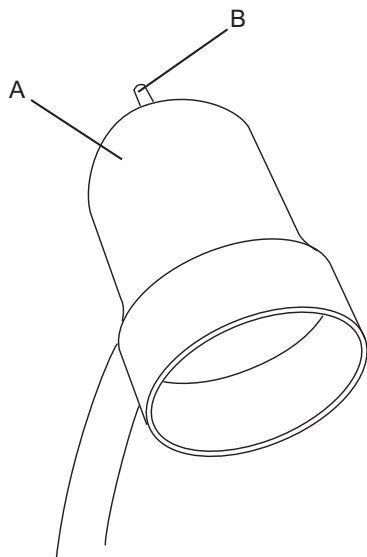

Figure 7 - Work Light
Refer to Figure 7
The Flexible Work Light may be turned "ON" or "OFF" by using the rotary switch (B) on the top surface of the housing (A). The switch can be rotated in the clockwise direction only. See Figure 7.